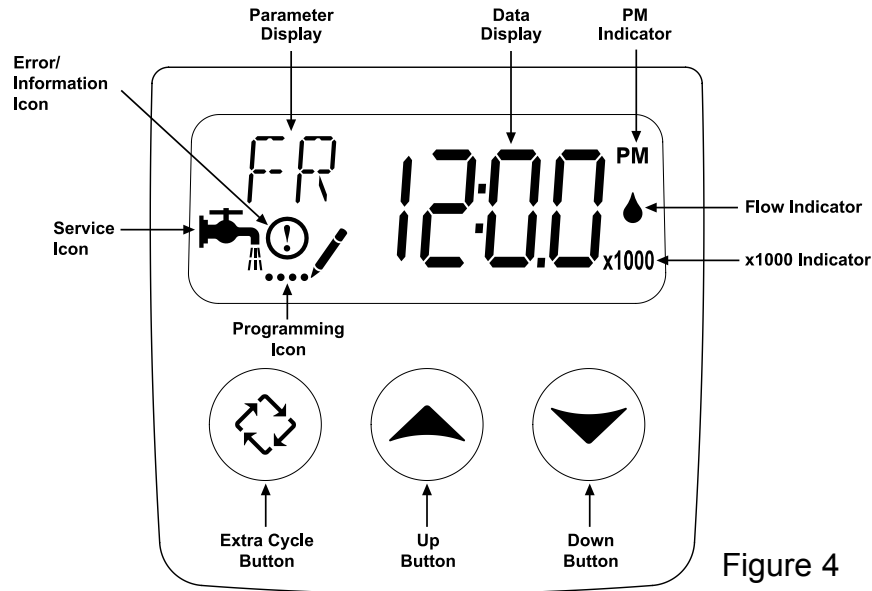

Figure 4
8. Plug the 24-volt transformer into a 120 VAC 60 Hz outlet. This valve has five positions: 1) Backwash 2) Brine/Rinse 3) Second Backwash (not used) 4) Rapid Rinse and 5) Brine Refill. When the valve is in the Service position, the extra cycle button (far left button as shown on Figure 4) must be pressed and held for 5 seconds before it activates. Press and hold the extra cycle button for 5 seconds to advance the valve into the "1" Backwash position. Slowly turn on the water supply and allow the unit to backwash until the air purges out of the tank and clears the system.